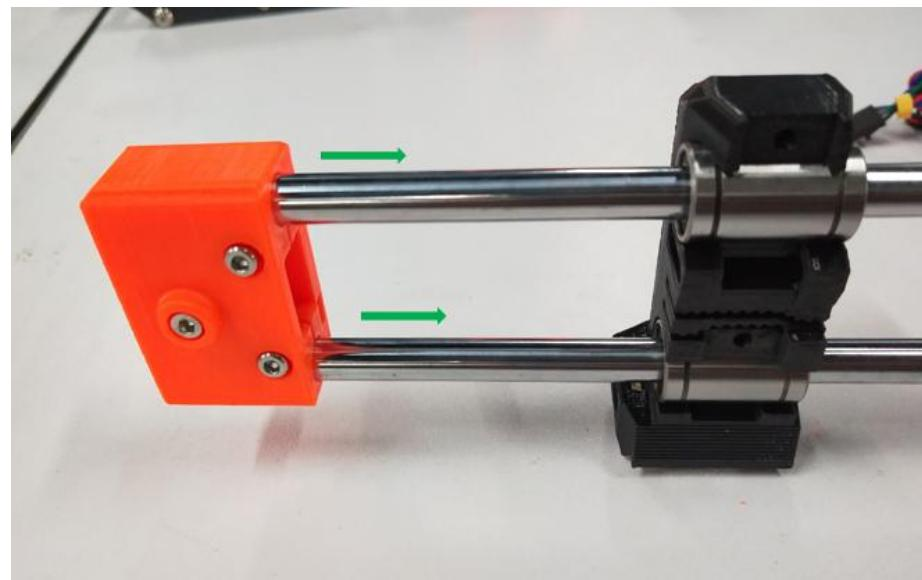

Figure 2.11.6
**Step 2-11-5:** As shown in Figure 2.11.6, tap the MINI-x-end into the end of the smooth rod to the bottom.